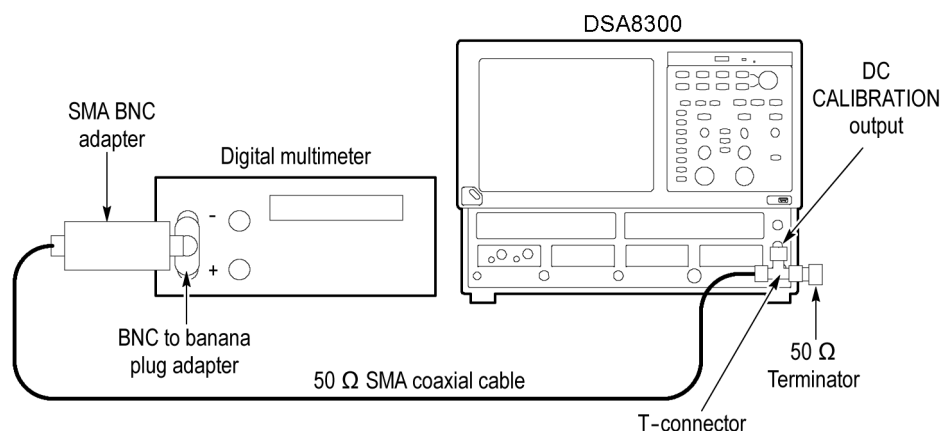

Figure 14: DC calibration output test setup
2. Connect the test equipment (See Figure 14.)